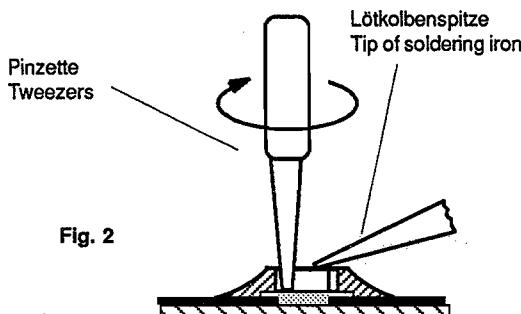

Fig. 2
2. Warm up the ends of the CHIP or the whole CHIP component and remove the CHIP from the adhesive by turning it without application of force so that the tracks beneath the CHIP do not break (Fig. 2).